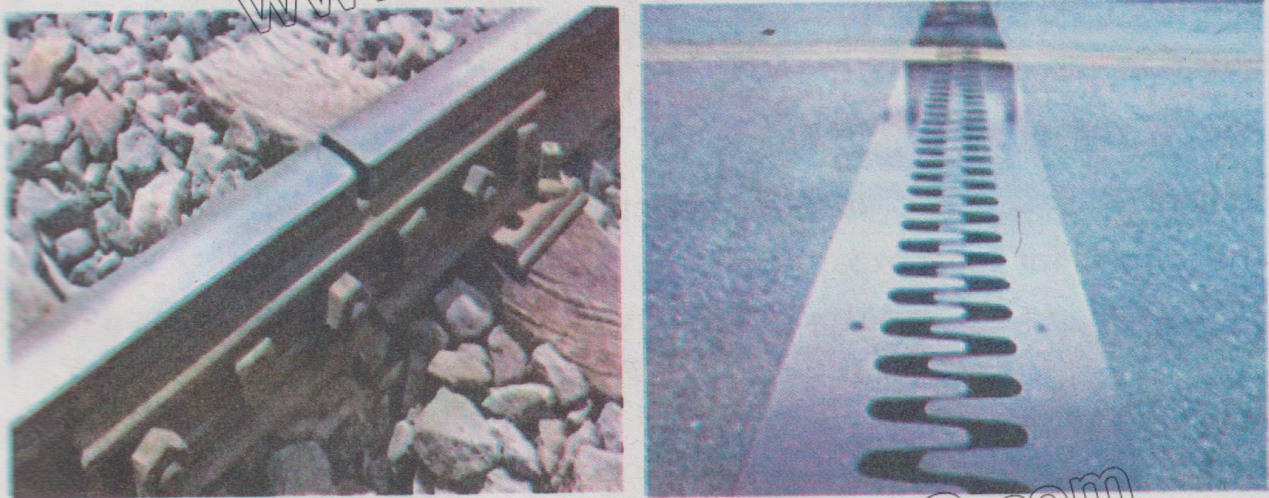

Fig.10.5: (a) Expansion gaps in railway tracks (b) Expansion joints in bridges
- 2. Gaps in Railway Tracks:** Steel tracks of the rails expand on hot days. Without room to expand, the tracks may bend or twist a phenomenon called "sun kinks" which can cause train derailments. Small gaps are left between railway tracks to allow them to expand in summer, preventing them from bending (Fig. 10.5-a).
- 3. Bridges:** Bridges have small gaps called expansion joints that allow them to expand in hot weather and contract in cold weather without breaking (Fig. 10.5-b).